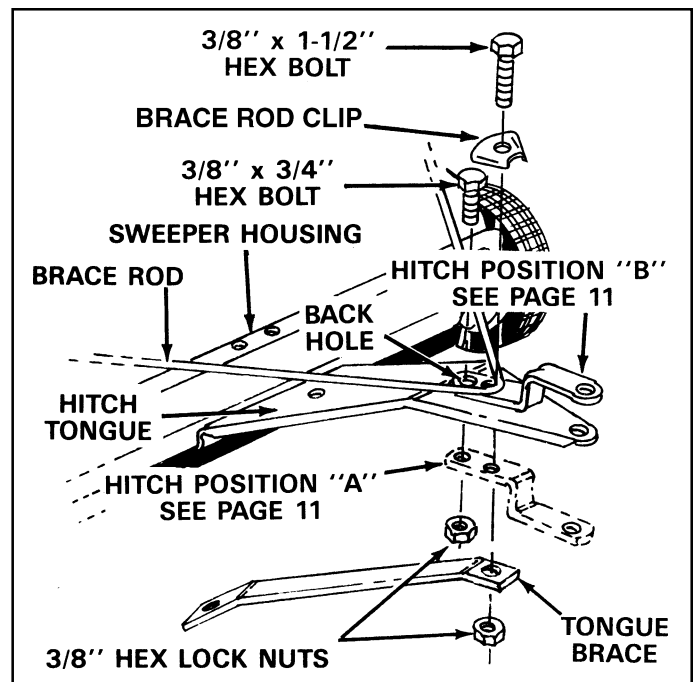

FIGURE 3
NOTE: Before assembling the hitch bracket to the hitch tongue, refer to figure 3 below and to page 10 to determine which hitch position is required for your towing vehicle.
4. Assemble a 3/8" x 3/4" hex bolt through the rear hole in the hitch bracket and the hitch tongue. Secure with a 3/8" hex lock nut but **do not tighten yet.** Next, assemble the brace rod, the hitch bracket and the hitch brace to the front hole in hitch tongue. Secure with the brace rod clip, a 3/8" x 1-1/2" hex bolt and a 3/8" hex lock nut. **Do not tighten yet.** See figure 3.